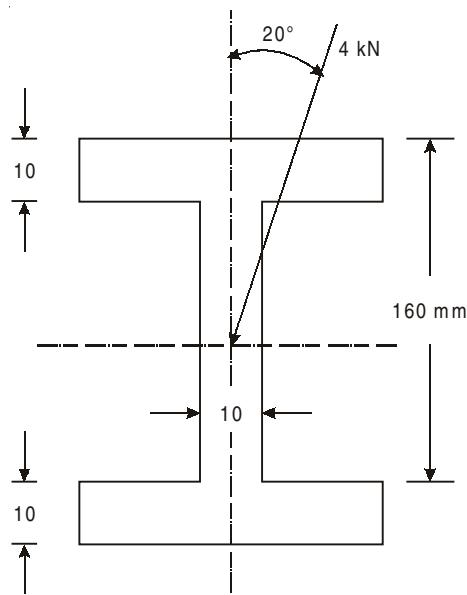

Fig. 9
52. A simply supported I-section beam of span 2 m carries a concentrated load of 4 kN at an angle of 20° from the vertical (as shown in Fig. 9. The load passes through C.G. of the section. Determine the maximum bending stress in the beam. (Ans. $\sigma_{\max} = 42.85 \text{ N/mm}^2$ comp.)